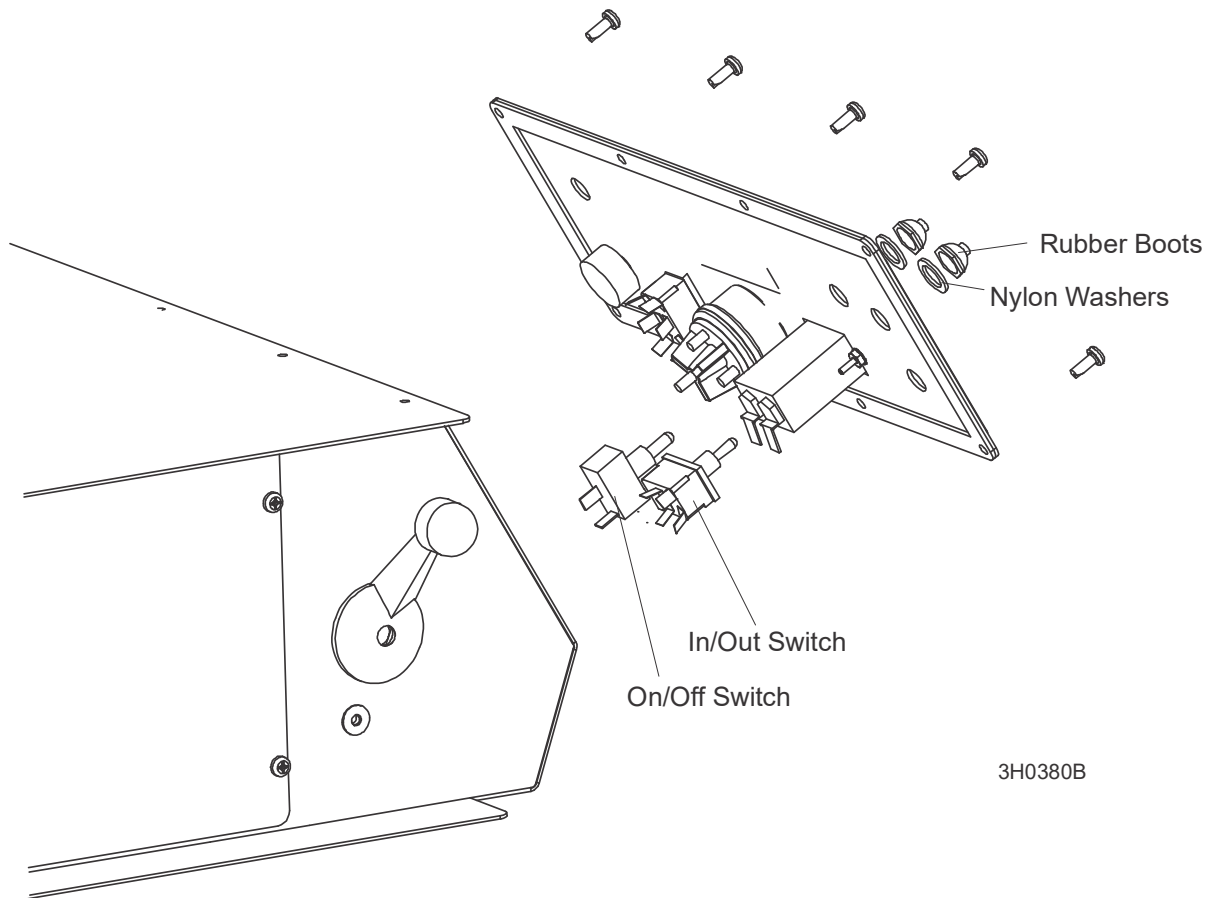

FIG. 1-16
3. Install the debarker on/off and in/out switches, 1/16" nylon washers, and rubber boots in place. See Fig. 1-16.